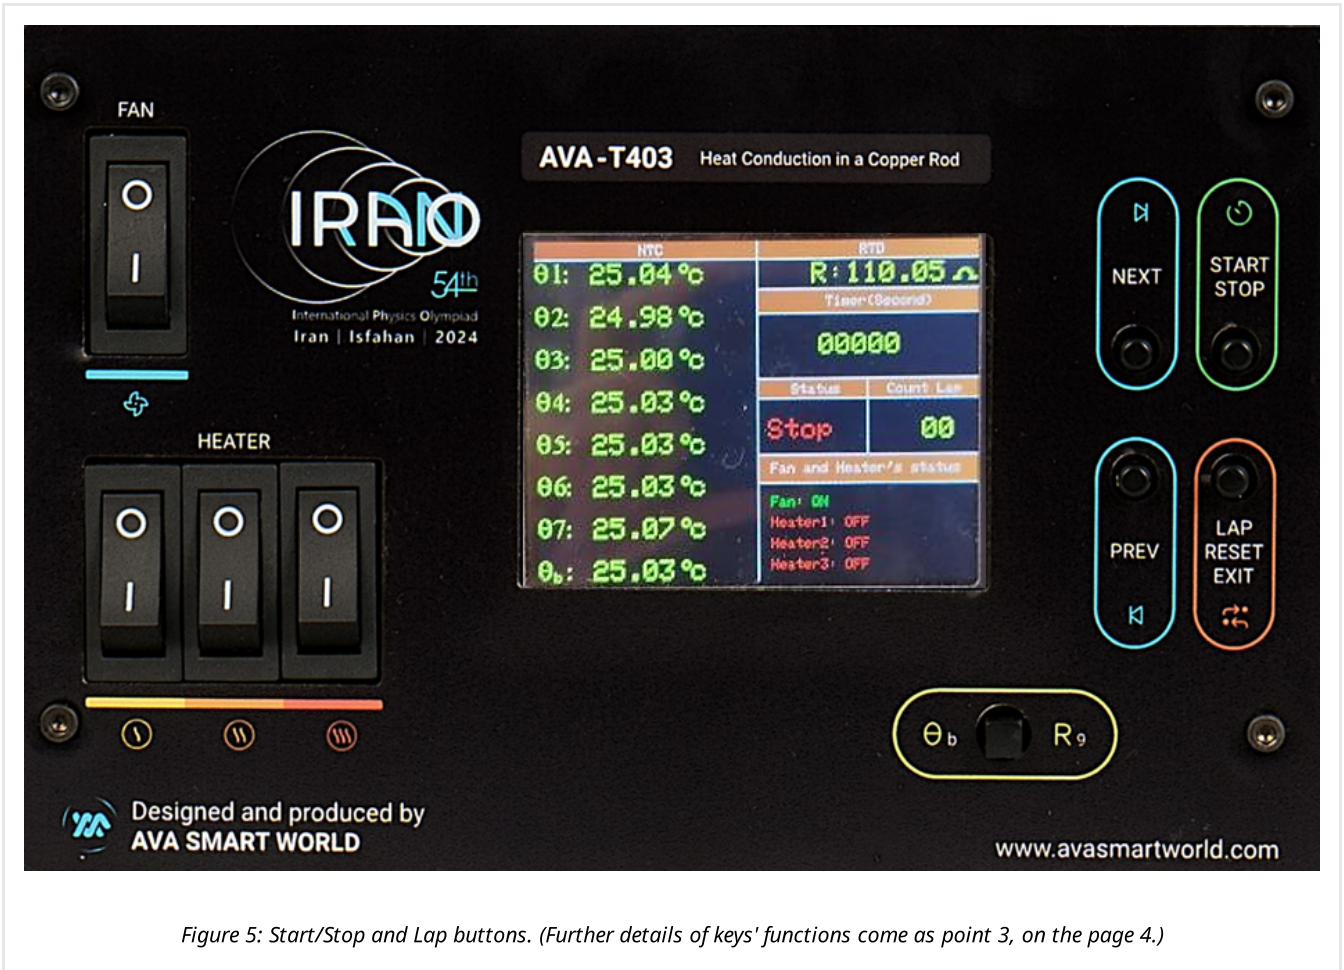
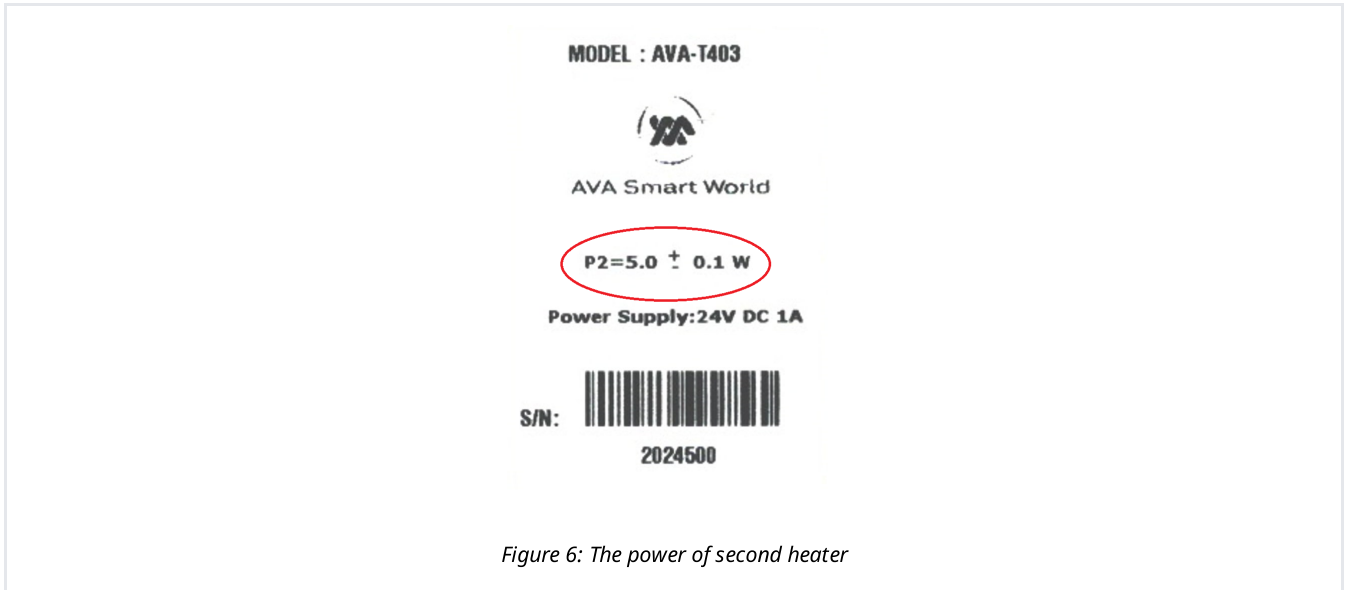

Figure 5: Start/Stop and Lap buttons. (Further details of keys' functions come as point 3, on the page 4.)
Figure 6: The power of second heater
3. The digital device AVA was designed by Iranian engineers specifically for this experiment. AVA measures the instantaneous resistances of Thermistors 1 through 7, PT100, and θ_b or R_9 . every two seconds. Then, based on the formula 2, reports the temperature of these sensors. However, for Sensor no. 9, only the value of the resistance is displayed. On the left of AVA's monitor, the temperatures of sensors 1 through 7 are displayed in a column. The last row, however, only shows at each instance, either the temperature of sensor 8, or the resistance of Sensor 9 (R_9). You can toggle between these two values by pressing the $\theta_b - R_9$ button shown in Figure 5.
4. As shown in Figure 5, there is one switch for turning the fans on and off () and there are also three switches for turning on the heater (  ). The icon for each switch is stamped below it. The first heater is a 1.95 W heater, the power of second heater is written on the device as shown in Figure 6, and the power of third heater is unknown.